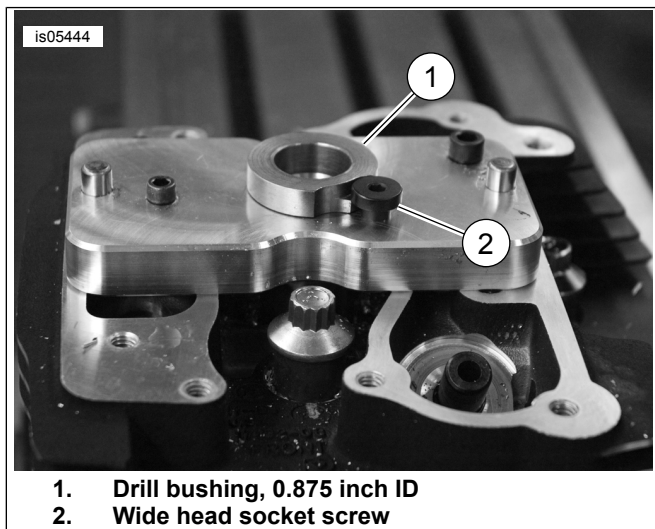

Figure 2. Install bushing for 0.875 inch drill
7. Install the 1.25 inch drill stop collar (2) over the 1.25 drill (1). Hold the drill stop gauge (3) with the short side marked "Small Drill Set" over the flat end of the drill and the other end up against the stop collar. Install and tighten set screw in the collar to 6.8 N·m (5 ft-lbs).
11. See Figure 2. Lubricate the long 0.875 inch ID drill bushing (1) and insert into the plate. Secure bushing with the lubricated wide head socket screw (2) and tighten the screw to 6.8 N·m (5 ft-lbs).